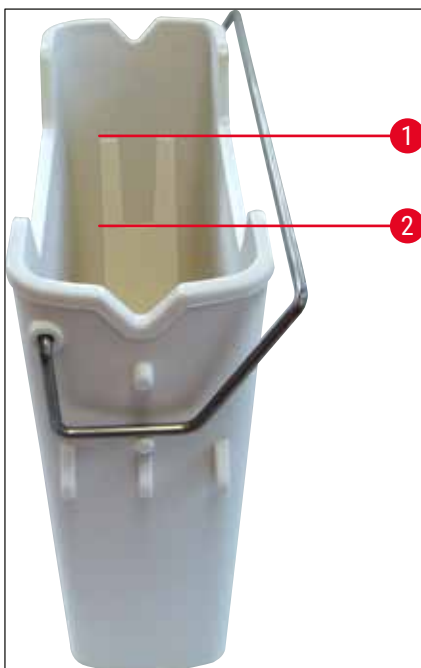

Fig. 67
4. Check that the fill level is sufficient (→ Fig. 67) and the reagent is free of dirt. In the event of contamination, the xylene is to be replaced (→ P. 37 – 4.6.3 Prepare the reagent vessel, fill it and insert it into the load drawer) and the reagent vessel is to be cleaned before filling it again.